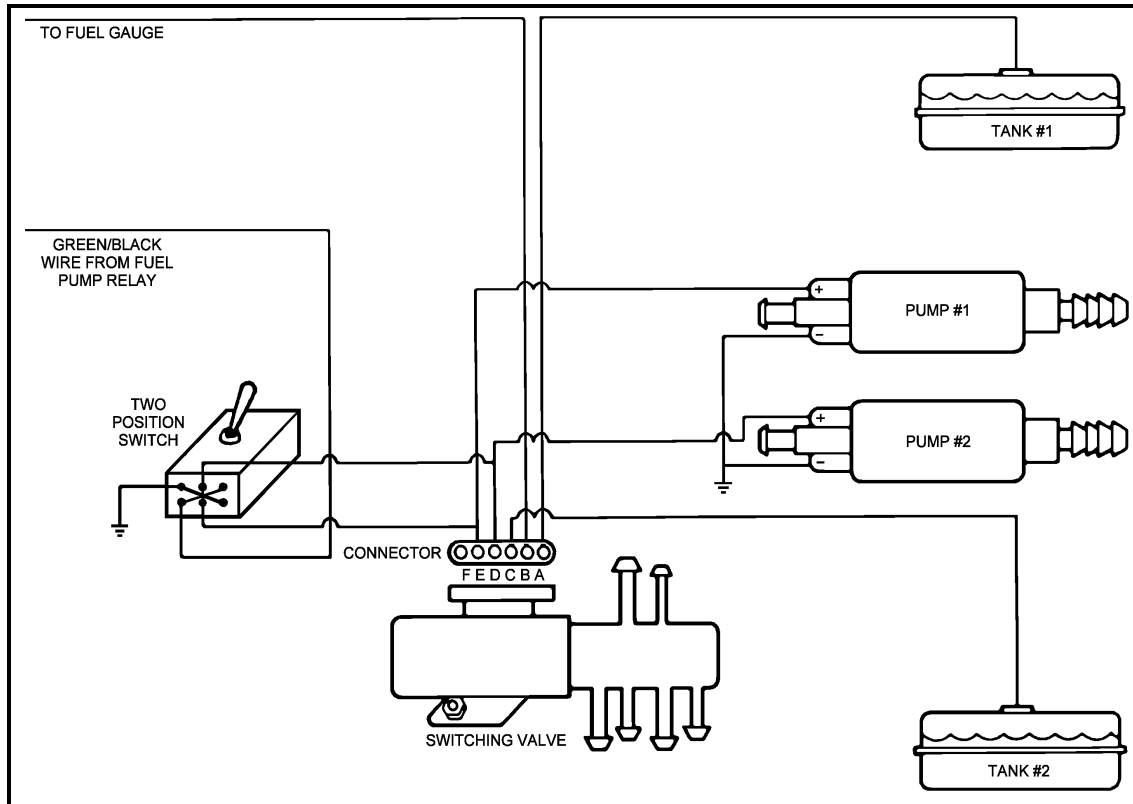

Figure 7
3. Mount the double-position, double-throw toggle switch, along with the relay under the dash if the vehicle is not already equipped with this type switch. Connect the electrical wiring, as shown in Figure 7 on the next page.
NOTE: Mount the double position, double throw toggle switch along with the relay under the dash if the vehicle is not already equipped with this type switch. Connect the electrical wiring, as shown in Figure 7 on the next page.